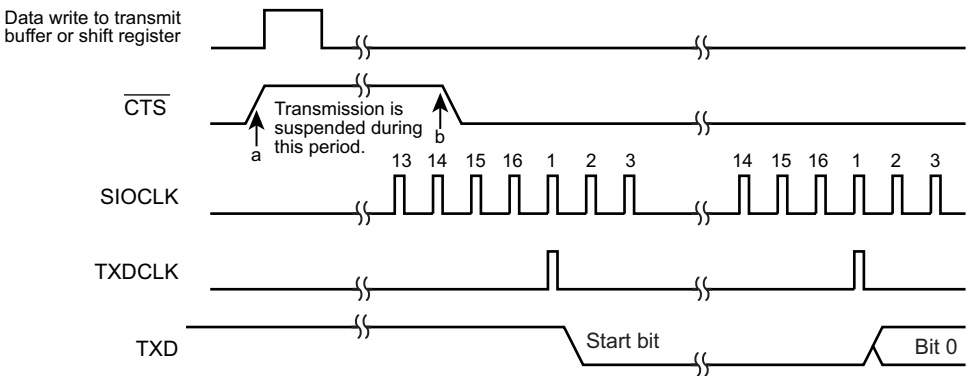

Figure 9-9 $\overline{\text{CTS}}$ Signal timing
- Note 1: If the $\overline{\text{CTS}}$ signal is set to "H" during transmission, the next data transmission is suspended after the current transmission is completed.(Point "a" in Figure 9-9)
- Note 2: **Data transmission starts on the first falling edge of the TXDCLK clock after $\overline{\text{CTS}}$ is set to "L".**(Point "b" in Figure 9-9)